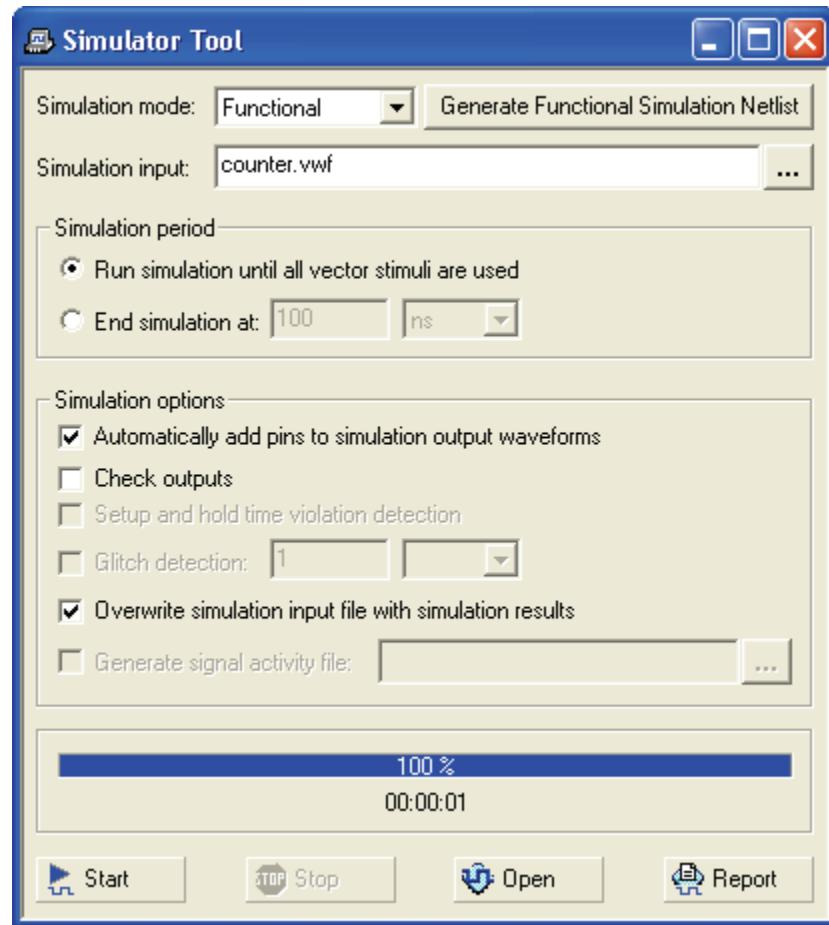

Figure B.10 Simulator Tool window.
1. From the Quartus II menu, select **Tools | Simulator Tool** to bring up the Simulator Tool window as shown in Figure B.10.
1. In the Simulator Tool window as shown in Figure B.10, put a check mark in the box that says **Overwrite simulation input file with simulation results**.